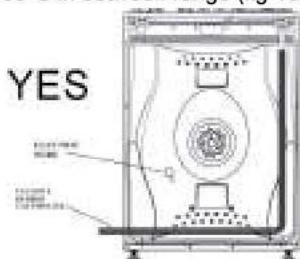

Fig.17
When the connection (can be easily inspected) in its full extent, there is teh chace to while using flexible pipe use according to the rules in force. The flexible pipe must be tightly using clamps according to the rules in force, (fig 17)The flexible pipe should include following conditions:
- It can be easily inspected in order to check it's condition(fig. 17). The control of preservation of the flexible pipe consist in checking that;